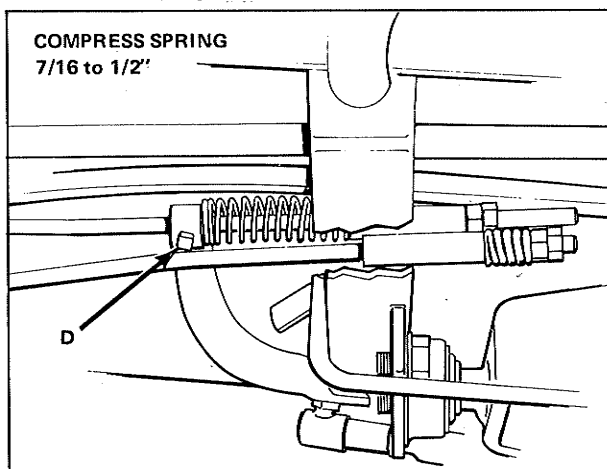

Figure 33. Clutch Rod Tension Adjustment
2. Loosen setscrew (item D, figure 33) in collar. Move the collar forward or backward so that the clutch rod spring is compressed from 7/16 to 1/2 inch (11 to 13 mm).